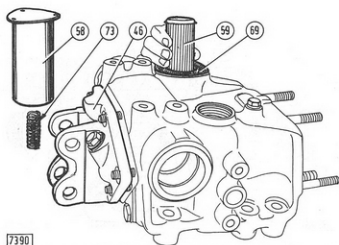

Fig. 217 - Removing the Lift Oil Filter
- Remove rear cover (46, Fig. 217).
- Dismantle the oil filter (59, Fig. 217).